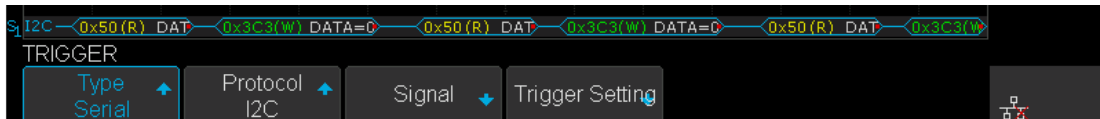

Figure 38 I2C Decode Bus Display
4. Press **Signal** softkey to enter the **SIGNAL** menu as Figure 38 shows.